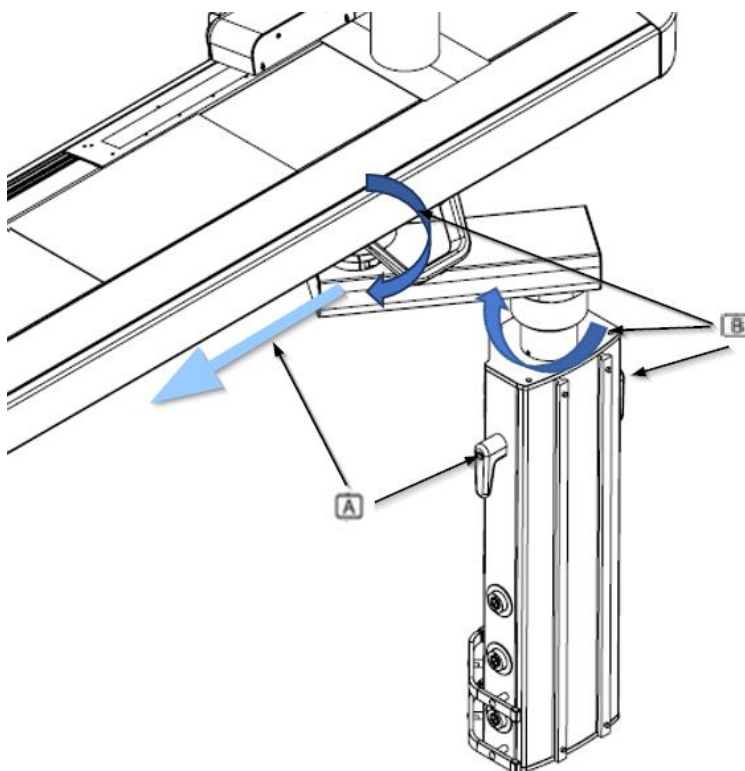

Fig.17 Unlocking the pivoting and traversing brakes of the ABITUS column-mounted traversing columns
For configurations without an extension arm, only drive (A) is enabled and when actuated, both the travel brake and the rotation brake are released simultaneously as shown in figure 17.